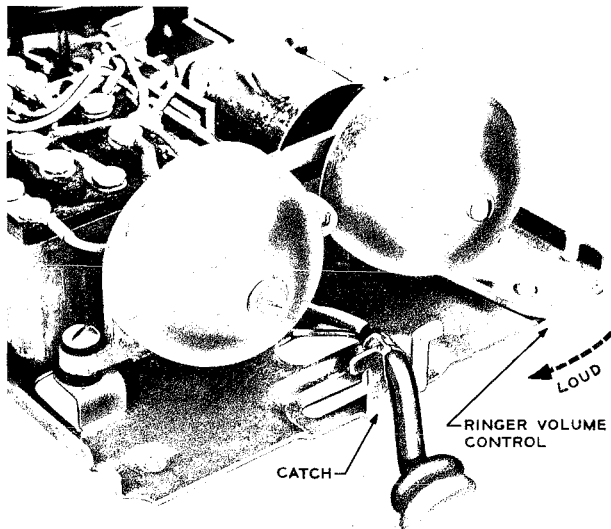

Fig. 22 — 554-Type Set, Ringer
(2) The ringer volume-control lever in the 554-type telephone sets is riveted at one end to the base of the set (see Fig. 22). In the 500-type telephone set, the ringer volume-control assembly is part of the ringer.
(3) Cord leads should be dressed to avoid interference with moving parts and ringer gongs. On the 500-type set, anchor the mounting cord beneath the stay hook in the right rear corner of the base to prevent interference with the ringer gong.